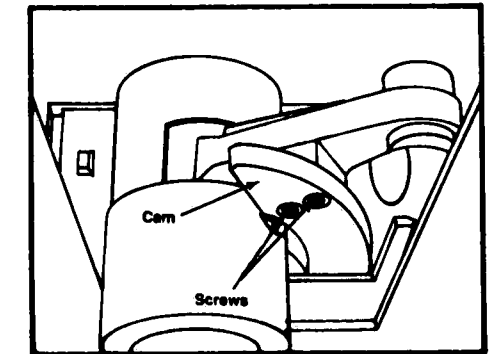

Figure 2-1. Location of Cam.
Remove four screws securing the cover cap (5, Fig. 8-5) and remove the cover cap. Elevate the table to its full height using the emergency pump pedal (see item 10 in paragraph 3-1). Remove the two screws securing the cam (Fig. 2-1) and remove the cam.
After the table has been placed in the desired location connect the electrical service to the table and return the table top to a level position. Replace the cam (Fig. 2-1). Check the operation of the table through various positions.